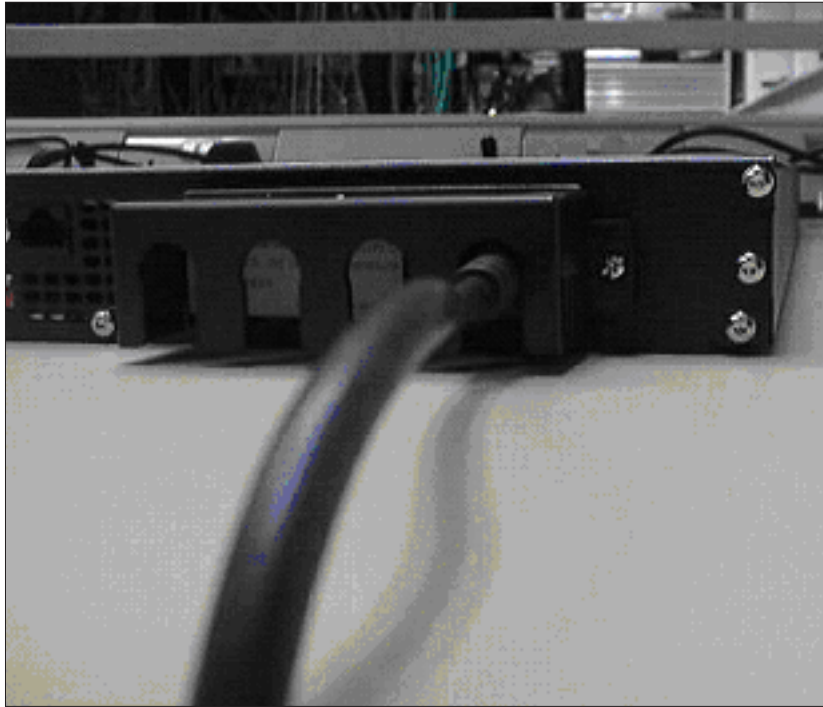

Figure 73. 2145-1U uninterruptible power supply power cable retention bracket
5. Secure the bracket in place with one screw on each side, as shown in Figure 73 on page 86.